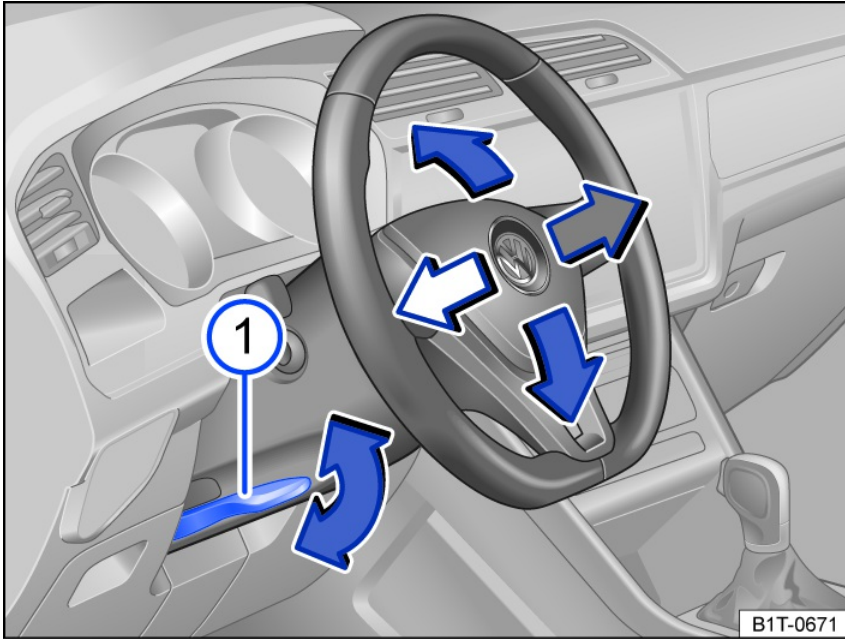

Fig. 69 Under the steering wheel in the steering column trim panel: lever to adjust the steering wheel position manually.
- Tilt the lever fig. 69 downward.
- Always push the lever fig. 69 ¹ upward into its locked position after adjusting so that you do not change the steering wheel position unintentionally while driving.